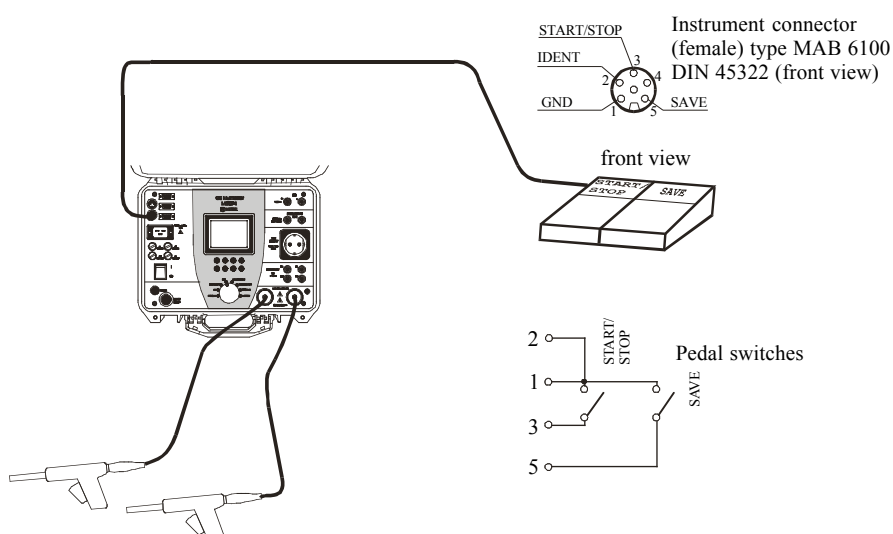

Fig. 56. Connection of remote control pedal to CE MultiTester
STEP 1. Connect REMOTE CONTROL pedal to the instrument as it is shown in fig.56 and carry out the measurement by pressing START/STOP pedal.